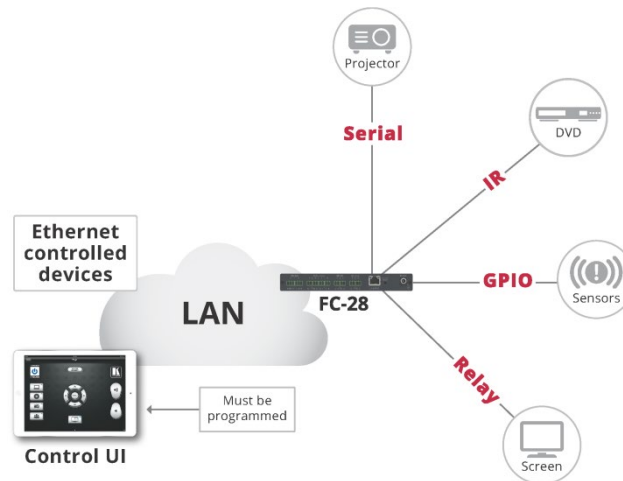

Figure 1: FC-28 Controlling Devices Remotely Using K-Touch 3.0 over a LAN
- Working in conjunction with K-Touch 3 for remote control of devices over an Ethernet LAN via I/O interface connections (see Figure 1).